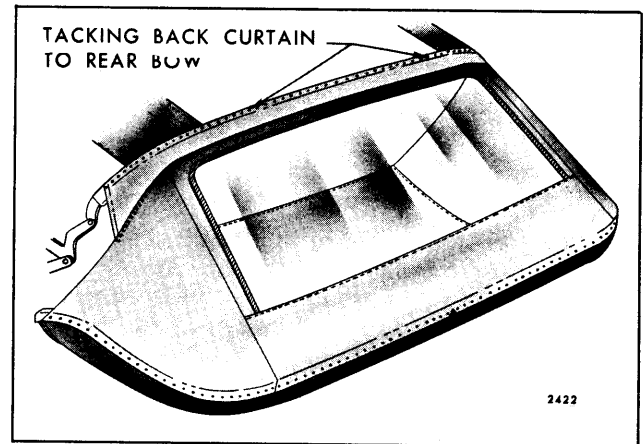

Fig. 13-21—Tacking Back Curtain
10. With front roof rail locked to windshield header, and with top cover laying on rear deck, tack back curtain to rear bow as follows: Remove all stay tacks except two at outer ends supporting back curtain. Then pull curtain forward to remove all fullness and tack curtain to rear bow. Tack from center toward each end of curtain. Remove stay tacks. Apply forward tension to curtain at each point of tack installation (Fig. 13-21).